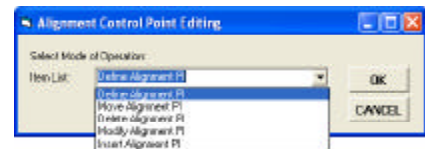

Figure 8
This single tool operates in five different modes. As such, upon activation the user will be asked to select the desired mode of operation. Shown in Figure 8 is the choice list that is presented by the tool.
When a PI is to be defined, the user should select the Define Alignment PI option as shown in Figure 8.
1. Select the Define Alignment PI option from the choice list shown in Figure 8, click at the:
When a PI is to be moved, the user should select the Move Alignment PI option as shown in Figure 8.
1. Select the Move Alignment PI option from the choice list shown in Figure 8, click at the:
When a PI is to be deleted, the user should select the Delete Alignment PI option as shown in Figure 8.
1. Select the Delete Alignment PI option from the choice list shown in Figure 8, click at the:
When a PI is to be modified, the user should select the Modify Alignment PI option as shown in Figure 8.
- Select the Modify Alignment PI option from the choice list shown in Figure 8, click at the: